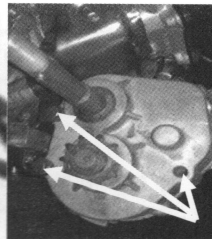

Fig.4
C. The second step to remove rear clutch, the chain adjuster bolt, reverse bracket I and reverse bracket II bolt, remove the chain then can take out the reverse. (See Fig.4)